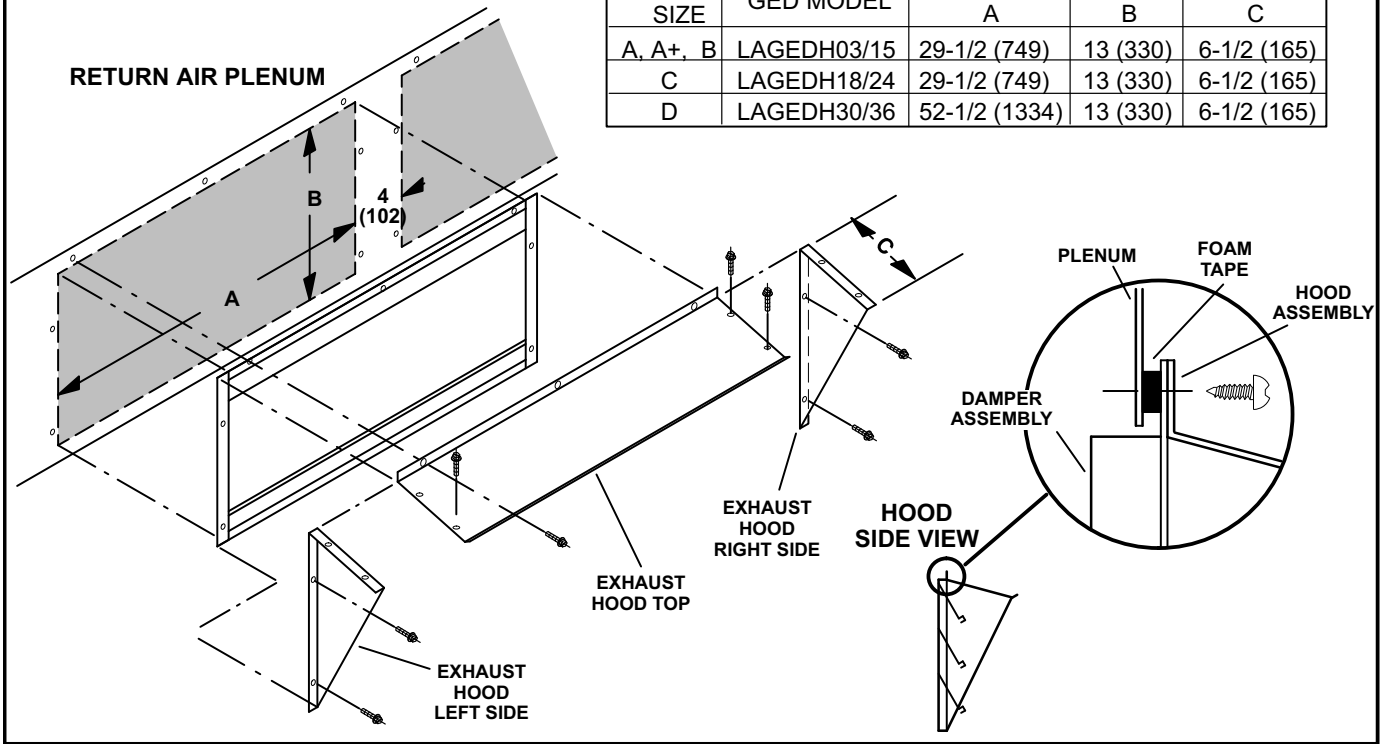

FIGURE 1
- 1- Cut one opening in return air plenum on A, A+ and B box units and two openings in return air plenum on C & D box units. See figure 1 for dimensions. Make sure opening is centered top to bottom in plenum. On C & D box units, gravity exhaust dampers may be installed either on opposing sides of plenum or adjacent to each other. If adjacent, allow a minimum of 4" (102mm) between the two openings.
- 5- Slide combined LAGEDH assembly into plenum opening and secure using screws provided. See figure 1.